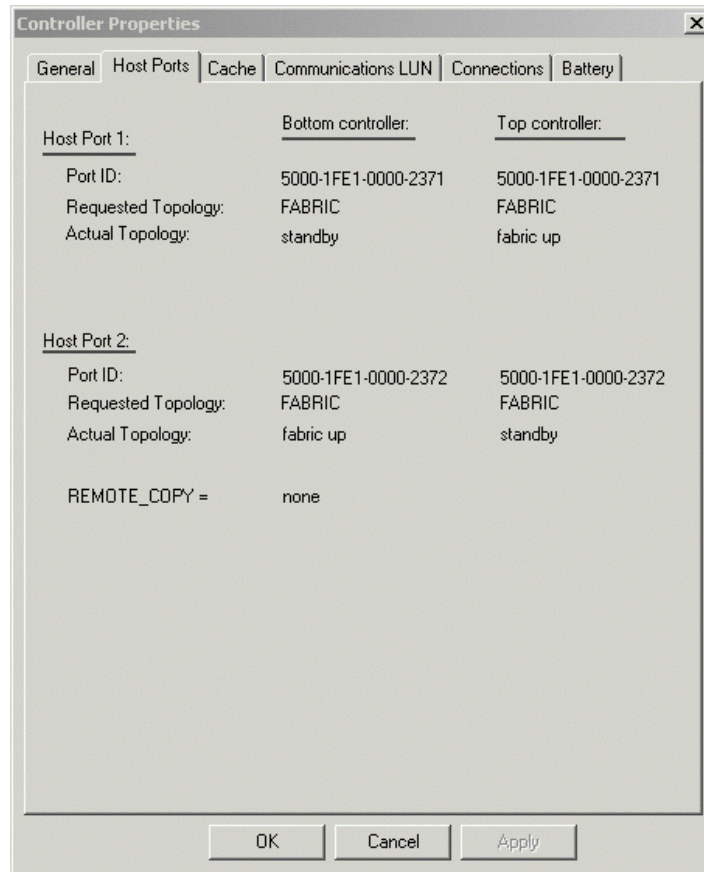

Figure 2-8. “Host Ports” controller properties tab, with fibre channel switch topologies shown
- Click the *Host Ports* tab to display the host port operating parameters. For FC hub configurations, verify that the “Requested Topology” and “Actual Topology” settings appear as shown in Figure 2-8. Requested Topology should show *LOOP\_HARD* and Actual Topology for the Top Controller should show *Loop Up*. It should show *standby* for the Bottom Controller.